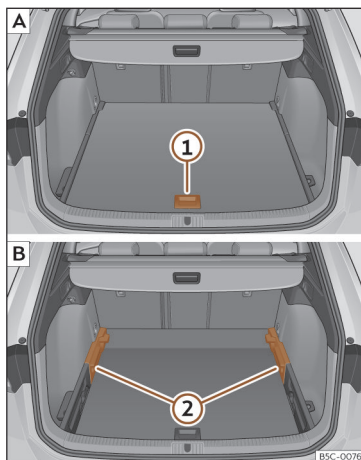

Fig. 125 Variable luggage compartment floor: [A] raised position; [B] lowered position.
- To move from the low position to the high position, lift the floor using the handle »» Fig. 125 (1), and pull it back until the front of the floor has fully passed the supports »» Fig. 125 (2).
- Move the floor forward over the supports as far as the rear seat backrest and then lower the floor with the handle (1).
- To move from the high position to the low position, lift the floor using the handle »» Fig. 125 (1), and pull it back until the front of the floor has fully passed the supports »» Fig. 125 (2).
- Now let the front part fall to the floor and slide the floor forwards as far as the rear seat backrest; lower the floor at the same time with the handle (1).
- Lift the variable floor in the high position using handle»» Fig. 125 (1), pull it up and push it towards the backrest of the rear seats until it folds along the hinge line and the movable part of the floor is resting on itself.